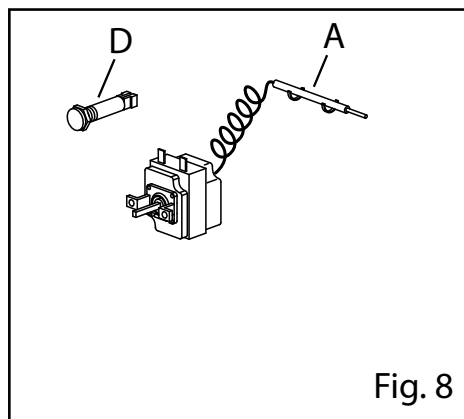

Fig. 8
- Remove the bulb from the support (e.g. Fig. 8/A)
- Fit the new bulb (e.g. Fig. 8/D)